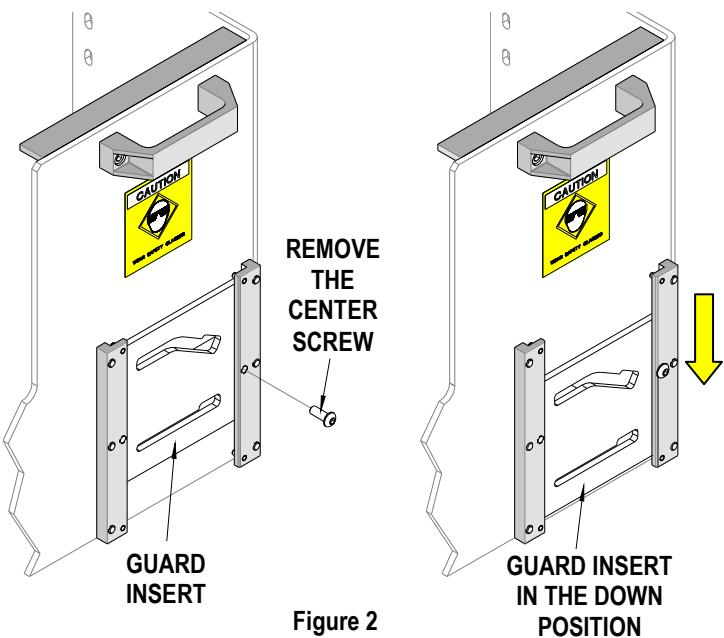

Figure 2
3. With the existing guard door off the press, remove the (4) posts, and reinstall them on the new guard door.
6. To operate a Crimp Module, the guard insert must be in the down position. To move the guard insert, remove the center screw and move the insert down. Be sure to replace the center screw. See Figure 2.